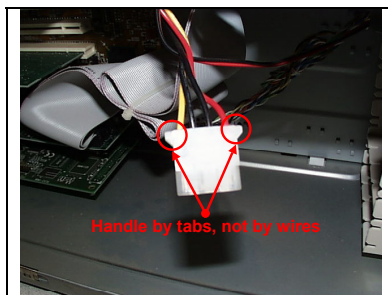

FIGURE IX.9
- 2) Next remove the Power cables from the PCMCIA device and the Hard Drive. This is best done the same way that you removed the power cable from the CD-ROM Drive, by rocking it side to side as you pull straight out. *It is usually very hard to remove.* There are plastic tabs on each side that make it easier to grab **(DO NOT PULL ON THE WIRES)**. See Figure IX.9